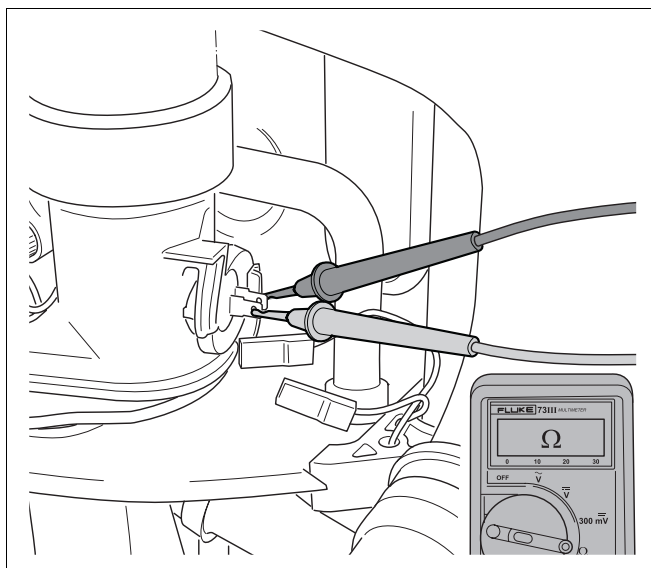

fig. 59 Measure flue gas thermostat resistance
- Measure the resistance of the flue gas thermostat (see fig. 59).